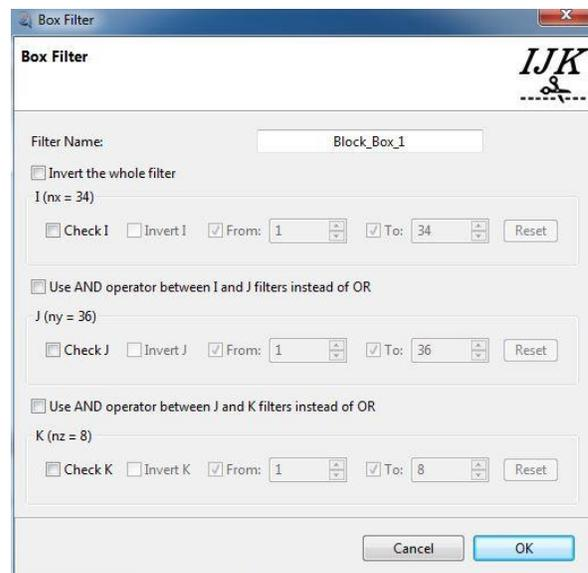
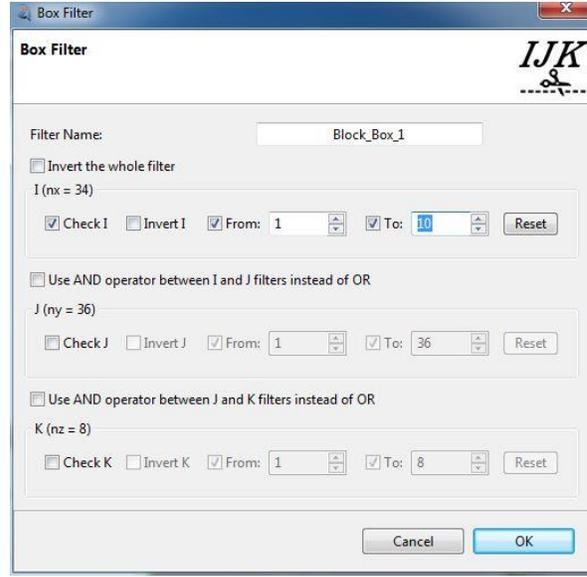

Figure 22 Adding Block Box Filter
Figure 23 Adding Block Box Filter Index of 2 to 10 in the “I” Direction
1. *Block Box Filter*: the dialog of the Figure 22 is displayed if user wants to add block box filter. Initially none of the boxes are checked which means no filter is added to 3D view. The name of the “Block\_Box\_##” is assigned to the defined block box filter, by default; this name is editable. For adding filter on each direction, user should just check the related box and enter the minimum and maximum index in the specified direction. For example the Figure 23